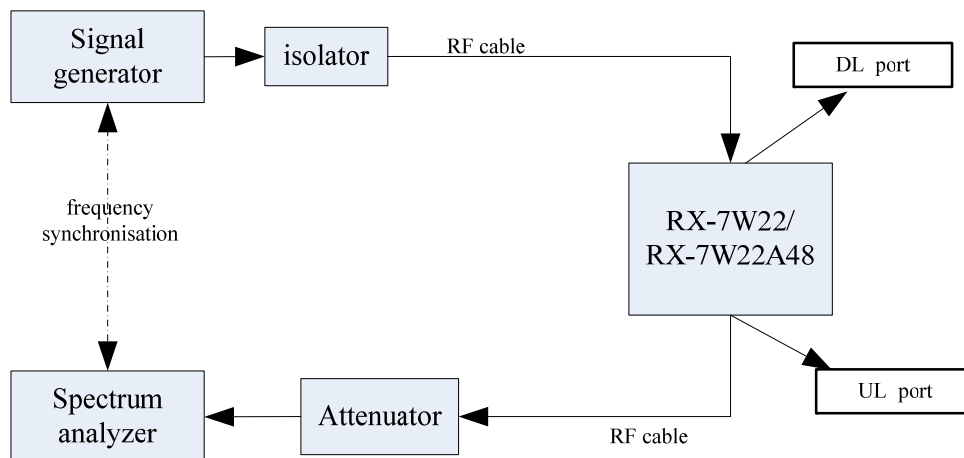
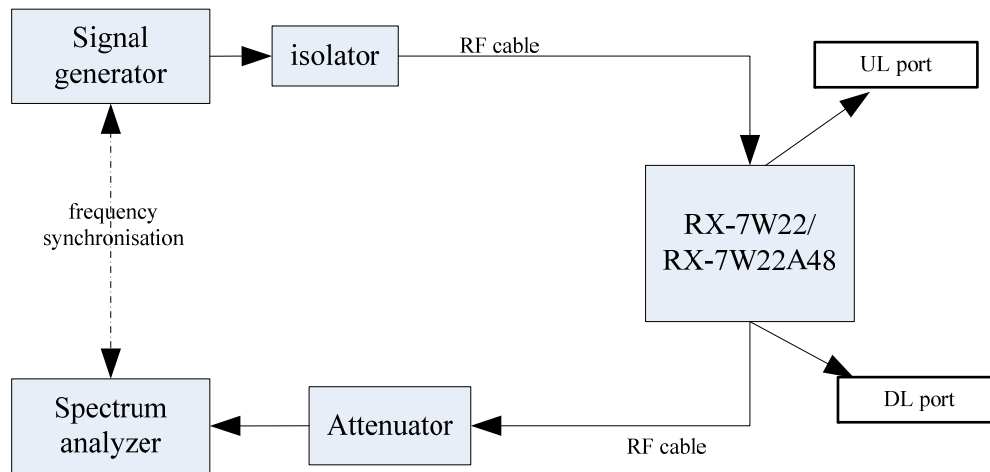

Figure 1: Maximum output power arrangement for Downlink
Figure 2: Maximum output power arrangement for Uplink
- (1) Connect the equipment as illustrated Figure 1 and Figure 2, when the output power is over the maximum value of the Spectrum Analyzer, add the attenuator to avoid destroying.
- (2) The signal generator should initially be configured to produce either of the required test signals (i.e., broadband or narrowband).
- (3) Set the signal generator frequency to the center frequency of the EUT operating band.
- (4) While monitoring the output power of the EUT, measured using the methods of in KDB Publication 971168 [R8], increase the input level until a 1 dB increase in the input signal power no longer causes a 1 dB increase in the output signal power.
- (5) Record this level as the ALC threshold level.
- (6) Repeat the procedure with the remaining test signal.
- (7) Repeat RF channels to be tested for single-carrier: Low frequency and High frequency.